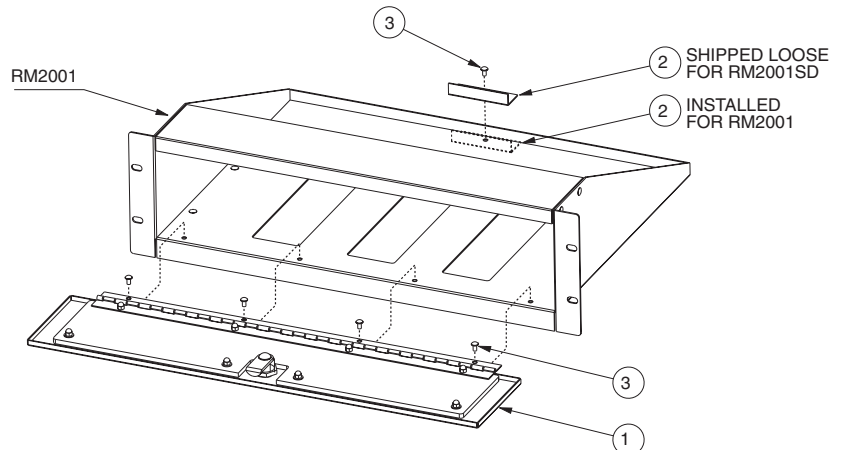

Figure 1. RM2001 Series VCR Rack Mount
NOTE: A security door (item 1), backstop bracket (item 2), and five 6-32 Phillips screws (item 3) are shipped as loose equipment for the RM2001SD model (refer to Figure 1). The backstop bracket should be installed in the hole provided in the rear of the rack mount base whenever the rack mount will be used **without** the security door. If the backstop bracket is installed when using the security door, the VCR will protrude and not allow the door to close.
3. Attach the security door (item 1) to the front of the rack mount with four 6-32 Phillips screws (item 3). Refer to Figure 1 and Table A.